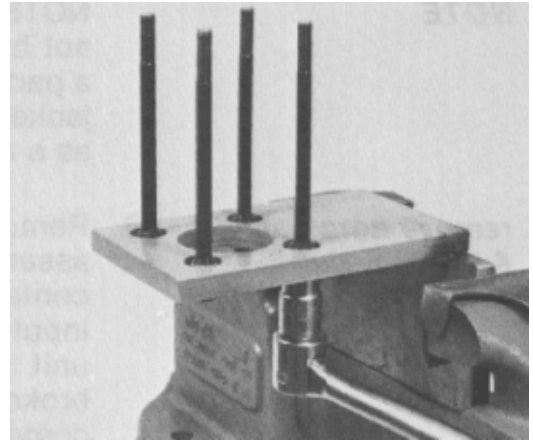

Figure 80
50. Remove the nuts holding the four bolts to the fixture, and remove the bolts (Fig. 80). Check the bolt threads for wear or damage.